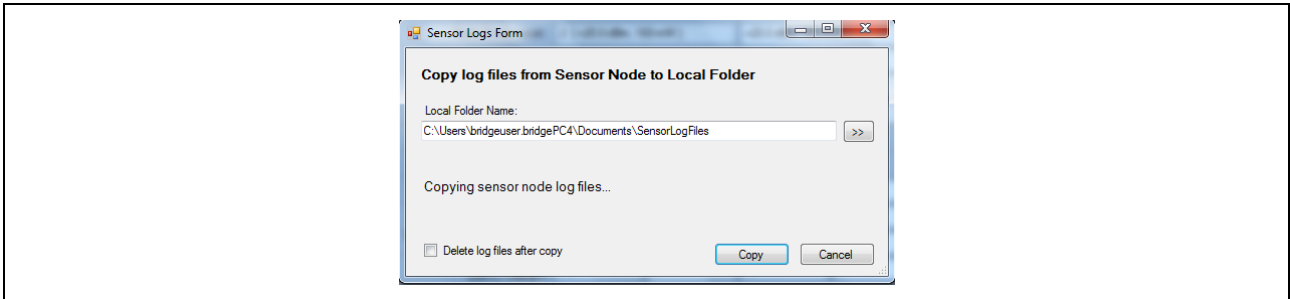

Figure 19 Copying Sensor Node Log Files Dialog
- 7 If a connection is made to the sensor node USB port, the dialog seen in Figure 19 is shown.